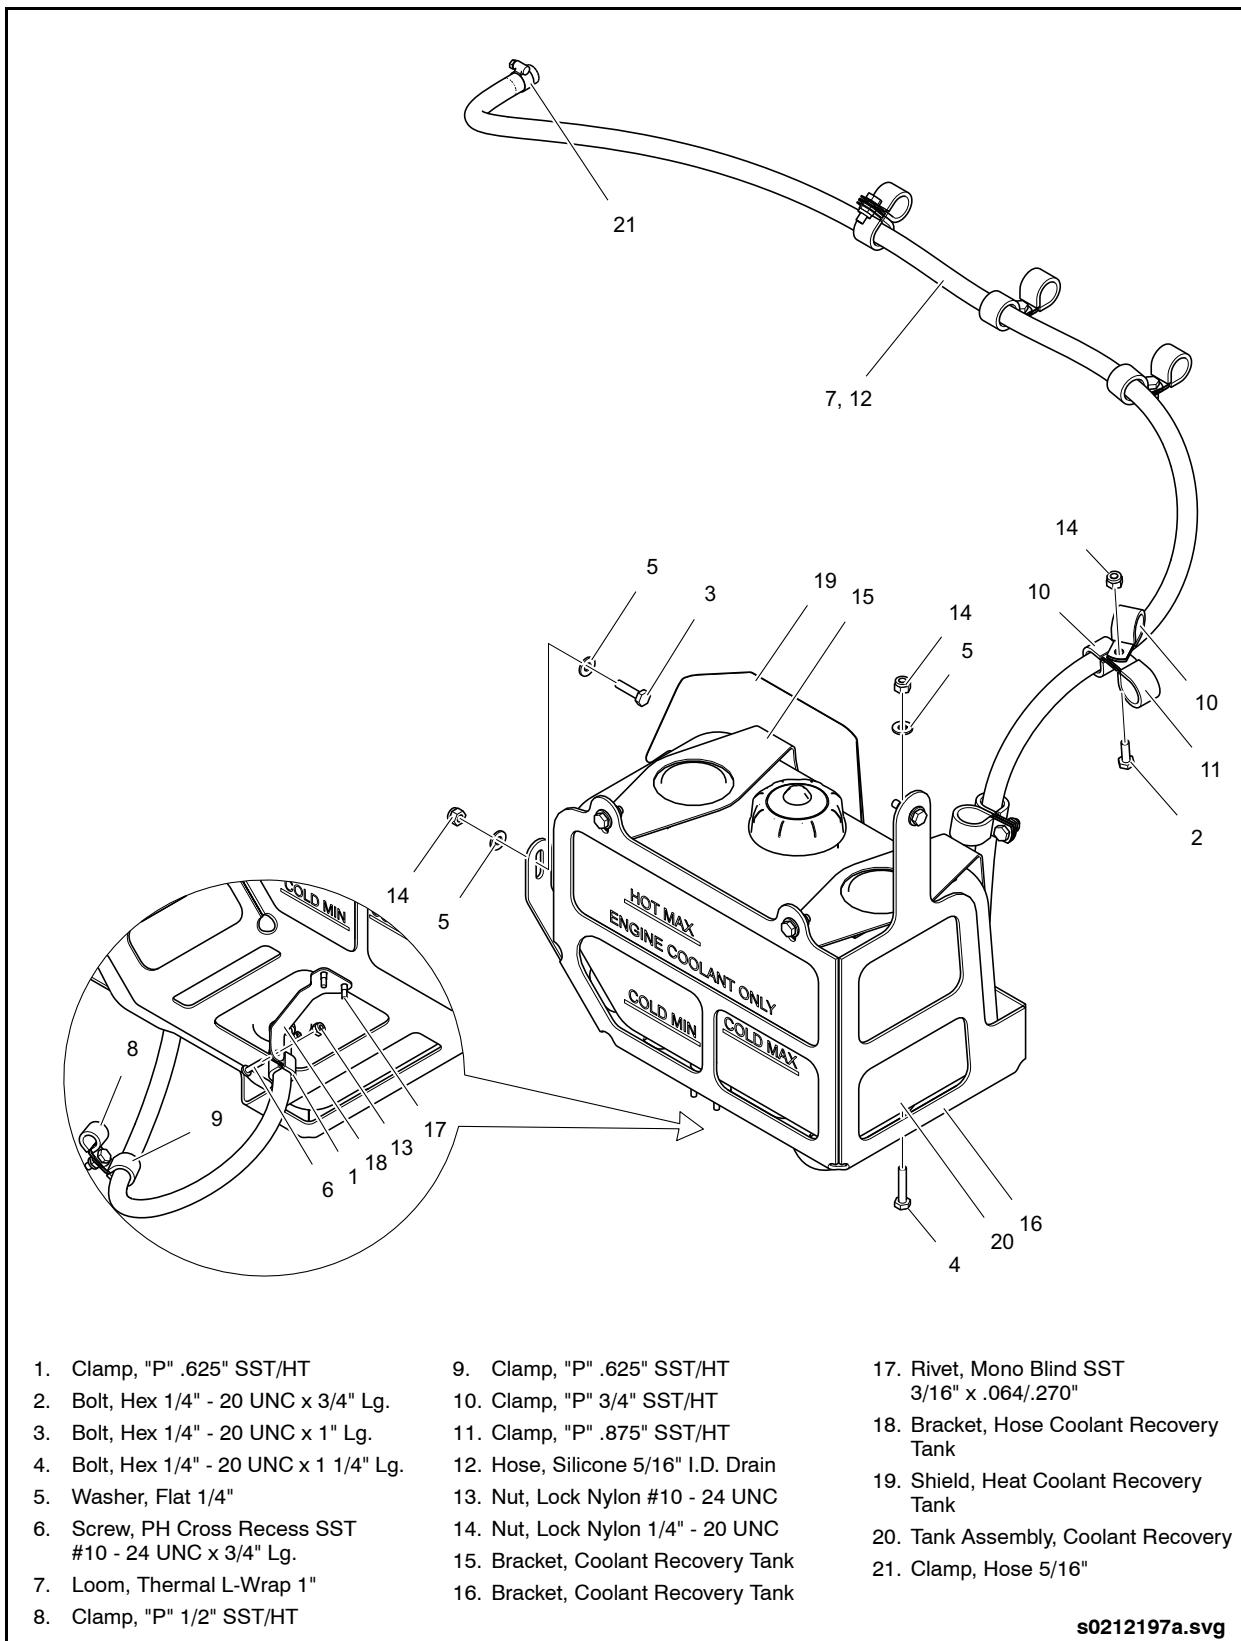

Fig. 6-6: Coolant Recovery Tank
3. Remove the two bolts securing the tank clamp to the tank mounting bracket at the front of the tank. See "Fig. 6-6: Coolant Recovery Tank" on page 23.